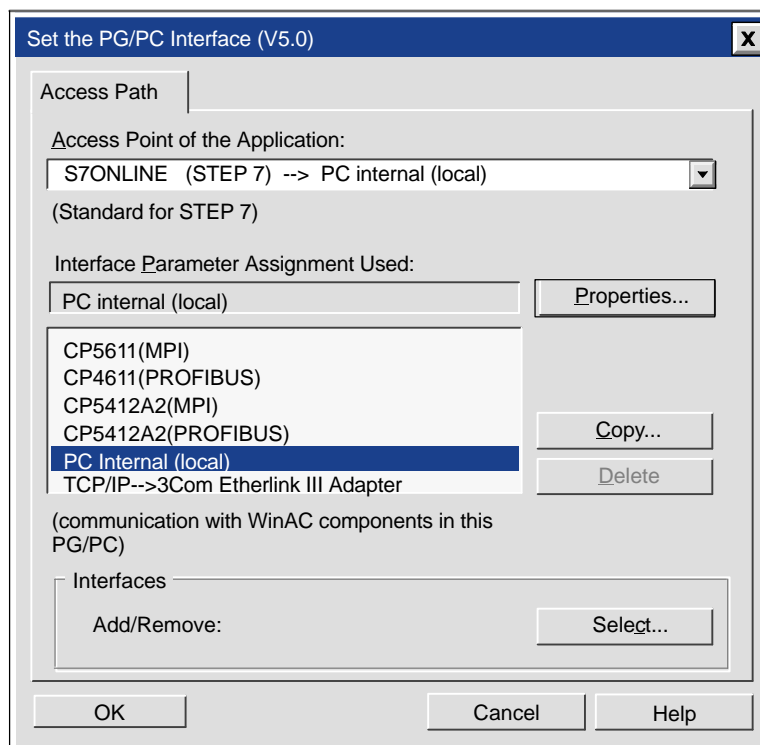

Figure 3-1 Setting the PG/PC Interface for PC Internal (local)
2. As shown in Figure 3-1, select the following entry from the drop-down list for the "Access Point of the Application" field: